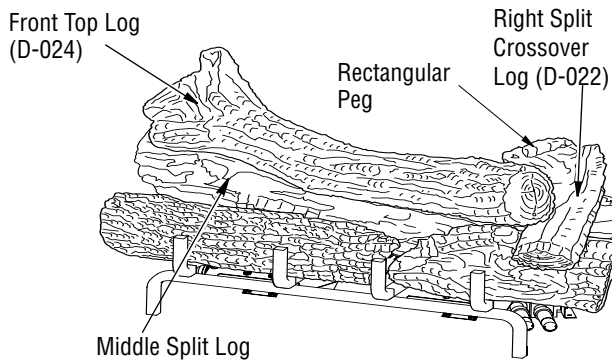

Figure 24 - Installing Front Top Log
7. For GTA/GTB logs, find the front top log (D-024). See **Figure 24**. The left end of this log has a square hole that fits over a square peg that is on the top of the middle split log. The right end of this log rests behind the knot on the top of the front right log.